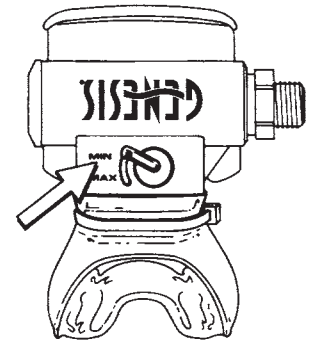

Figure 9
- a) Place the Vane Adjustment Switch (item 2) in the “MIN” position. *Figure 9.* Slowly pressurize the 1st Stage regulator to 3500 to 3000 psig. Verify a steady hose pressure of 135-150 psig.
- d) With a 1/8” screwdriver, loosen the adjusting screw (item 11) by turning the screwdriver counter clockwise until there is barely a leak. Next, turn the adjustment screw clockwise until the leak just stops.